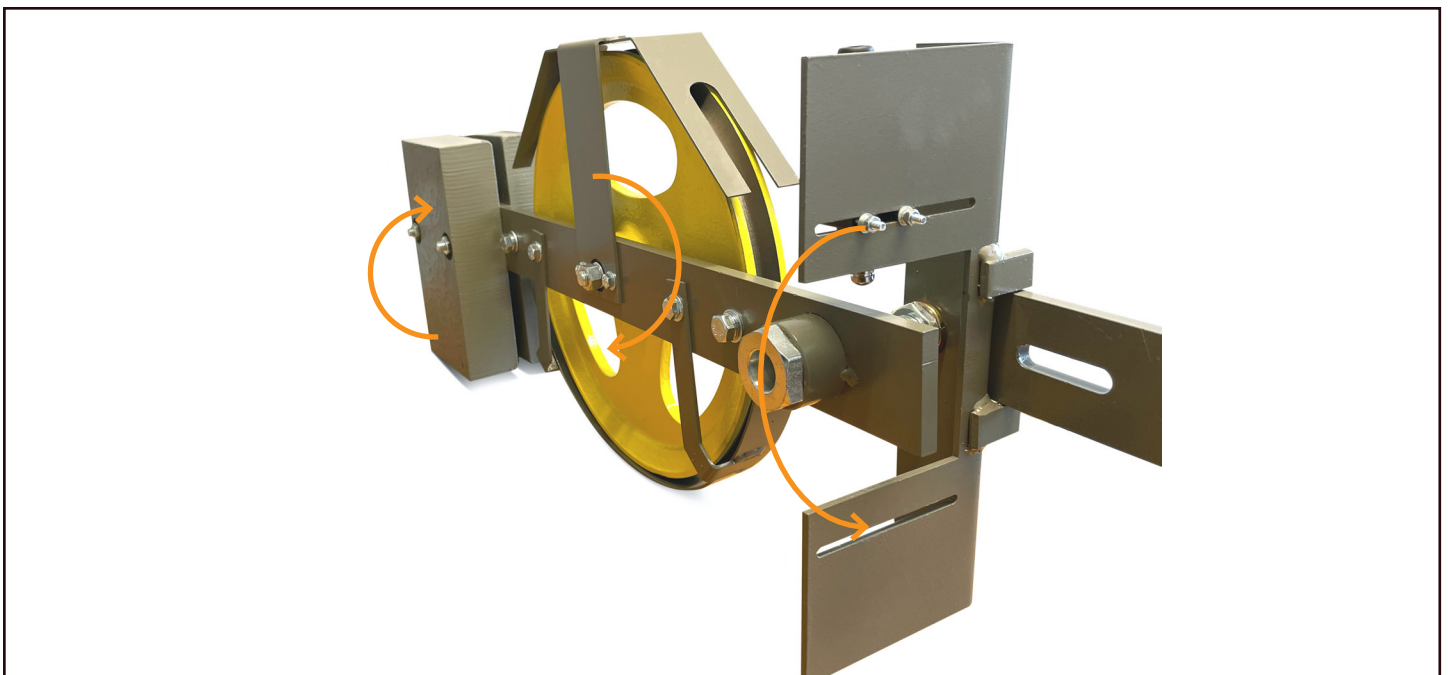

Figure 8
5. Remove the two bolts connecting the weight blocks to the swing arm, remove the weights and reinstall rotated 180° (*see figure 8*).